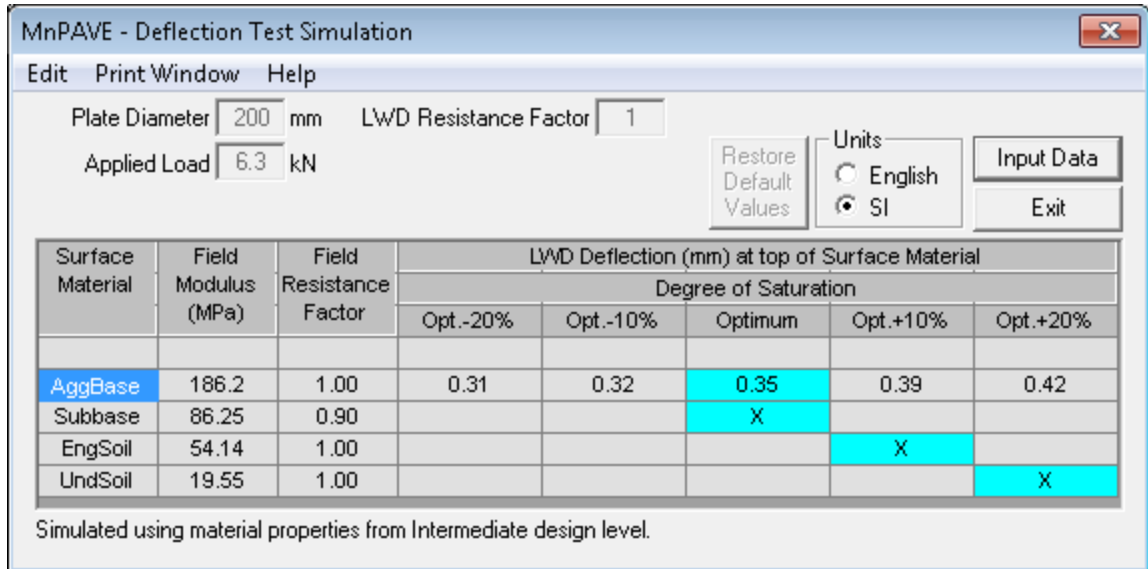

Figure 7 Target Values for Top Granular Layer
10. If another granular layer will be placed, click on that layer and then click **Calculate** to estimate target deflections (see Figure 7).